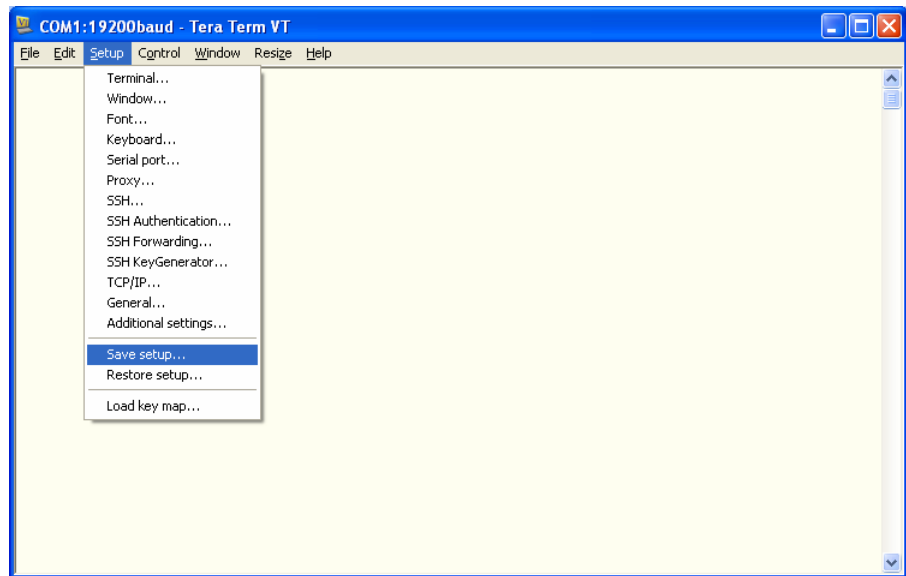

Figure 6-29: Saving the Tera Term Setup
23. Select **Setup**, then click **Save setup** (Figure 6-29).